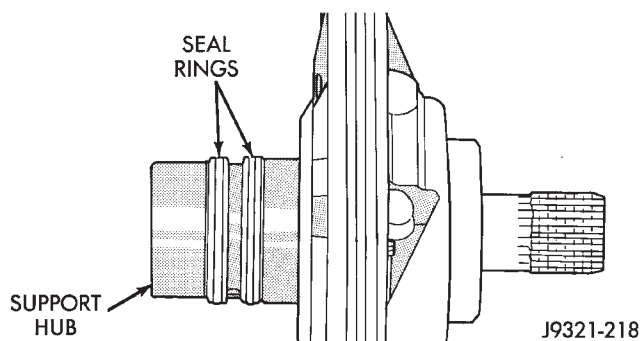

Fig. 54 Hub Seal Ring Position
(6) Install new thrust washer on hub of reaction shaft support. Lubricate washer with transmission fluid or petroleum jelly.
(7) If reaction shaft seal rings are being replaced, install new seal rings on support hub (Fig. 54). Lubricate seal rings with transmission fluid or petroleum jelly after installation. Squeeze each ring until ring ends are securely hooked together.